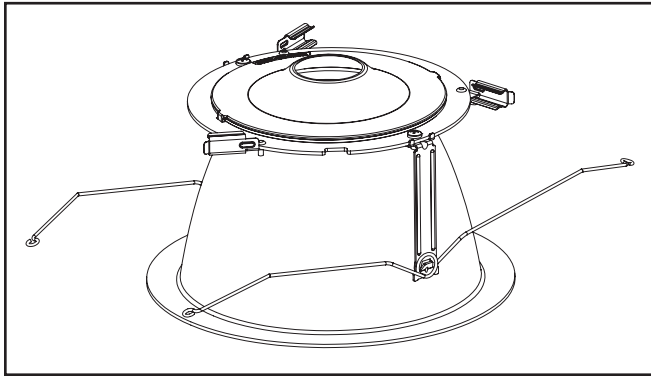

Figure 5.
1. Remove lower trim from protective packaging. Rotate side clips (3) outwards (Figure 5.). Remove LED Engine from protective packaging.